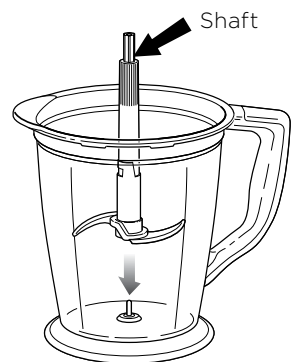

Fig. 1
- 3 Holding the Lower Pitcher Blade Assembly by the shaft, place it onto the spindle pin inside the pitcher. **(Fig. 1)**